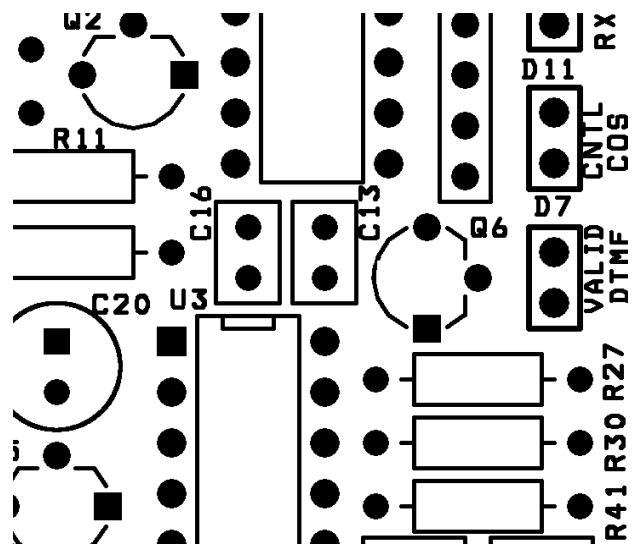

FIGURE 2
1. The Basic controller comes with de-emphasis on the repeater's receiver. If you do not want the audio to be de-emphasized you will need to clip out C13 (see figure 2). The Basic controller will then have "straight through audio". Remove C13 for speaker or flat audio, keep C13 for discriminator audio.